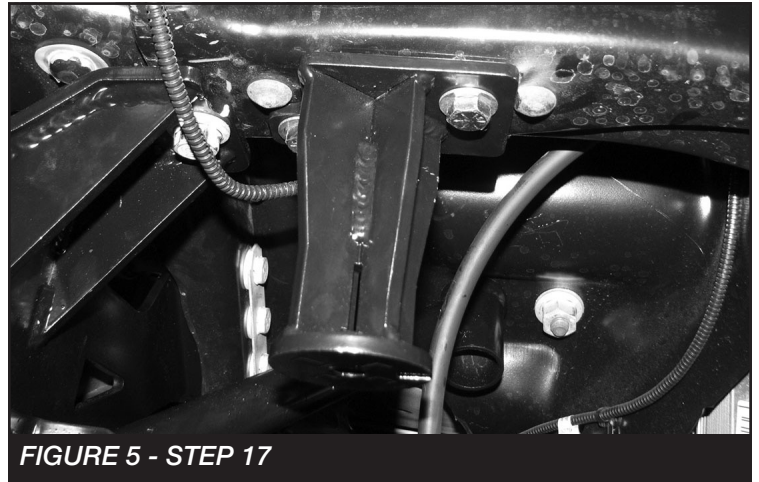

FIGURE 5 - STEP 17
17. Attach the factory bump stop cup to the new bracket using the supplied 5/16" x 1 1/4" bolt, flat washer, and split washer. Before tightening the bolt, align the flat part of the bump stop cup to the flat side of the drop bracket. Press the factory bump stop back into the cup. **SEE FIGURE 5**